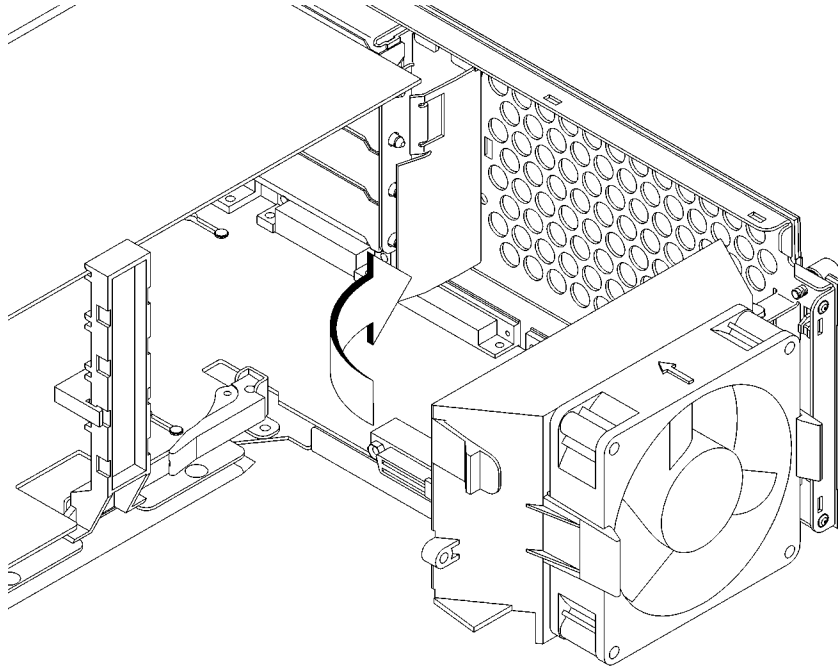

**Figure 44**                      **Installing the EISA Retainer and EISA Slider**
- 9 Replace the EISA retainer and its screw, as shown in Figure 44.
- 10 Replace the EISA slider, as shown in Figure 44.